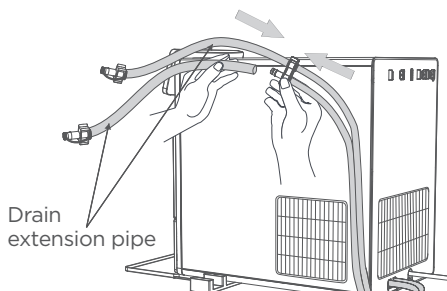

Figure 8
- 1.7 Remove the silicone stoppers on the fastener, and insert the drain extension pipe (the end without a silicone stopper) (see Figure 8).